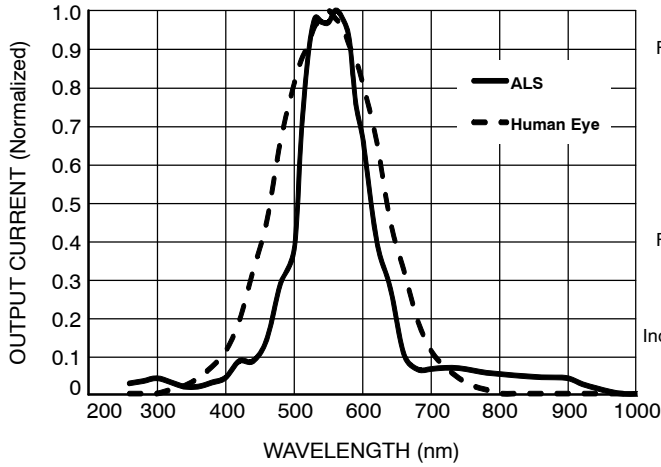

Figure 4. ALS Spectral Response (Normalized)
7. Refer to Figure 4 for more information on spectral response.
The ambient light sensor contained in the NOA3301 employs a second photo diode with its own proprietary photopic filter limiting extraneous photons, and thus performing as a band pass filter on the incident wave front. The filter only transmits photons in the visible spectrum which are primarily detected by the human eye and exhibits excellent IR rejection. The photo response of this sensor is as shown in Figure 4.